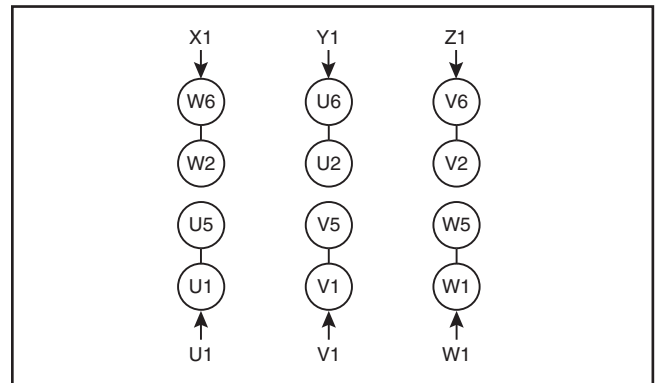

Figure 54. 220V motor wiring.
5. Wire the motor as shown on the diagrams on the inside of the motor wire cover. Note—**Figures 54 & 55** below have been provided for your reference and were current at the time that this manual was written. However, always use the diagram on the wire cover that comes with your motor!